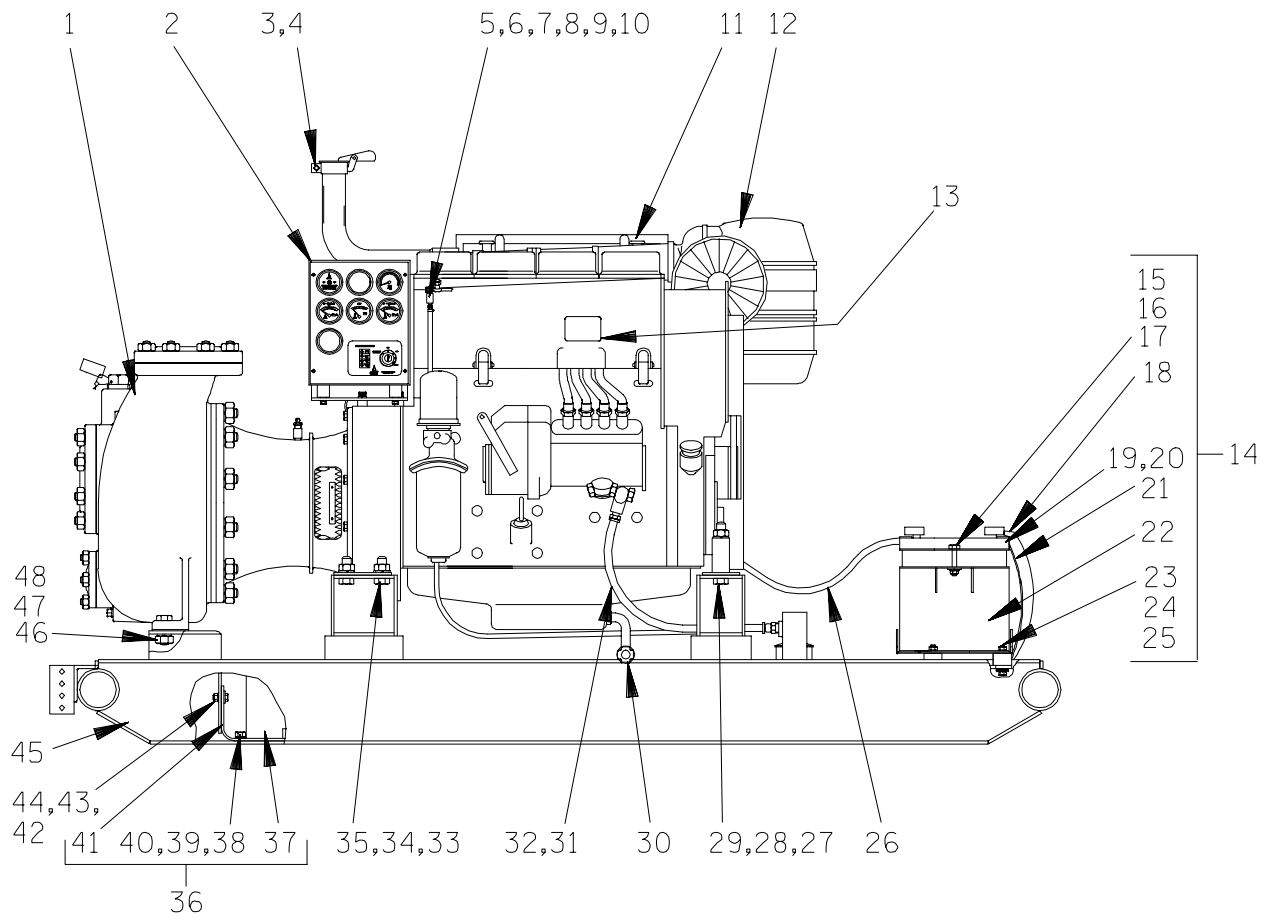

Figure 1. 04B3-F4L Pump Model Assembly
This pump requires little service due to its rugged, minimum-maintenance design. However, if it becomes necessary to inspect or replace the wearing parts, follow these instructions which are keyed to the sectional views (see Figures 1, 2 and 3) and the accompanying parts lists.
Remove the suction and discharge lines. See Figure 1, and remove the hardware (46, 47 and 48) securing the casing to the base (45). Remove the nuts (28) and use a suitable hoist and sling to separate the pump casing and gasket (30) from the seal plate and intermediate.